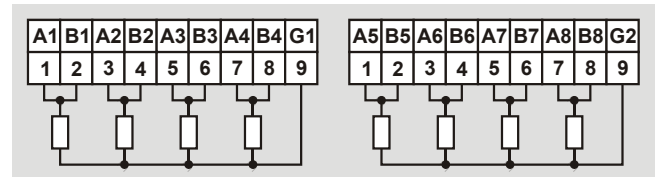

Fig. 98 Terminal assignment and internal connections of XS831 Auxiliary Terminal Package
- Each unit consists of two groups of four pairs of push-in terminals (A1B1, A2B2, ... A8B8, each with a 499Ω resistor) for converting 0...20 mA signals (maximum load per resistor = 25 mA) into 0...10 Vdc signals, and one push-in ground terminal per group. See also Fig. 98.